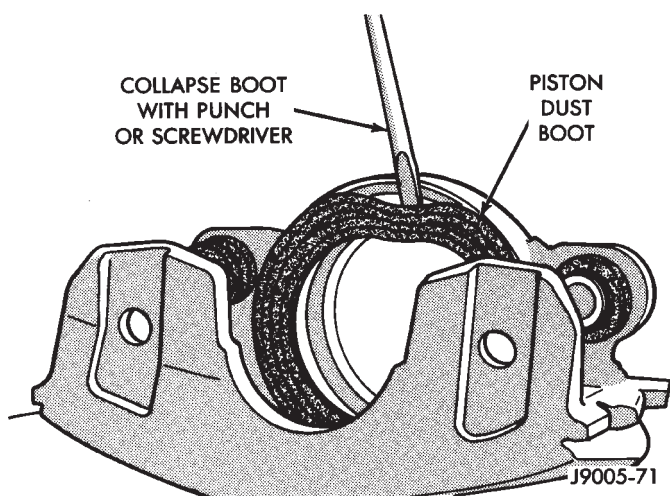

Fig. 48 Caliper Piston Dust Boot Removal
(5) Remove caliper piston dust boot with suitable pry tool (Fig. 48).